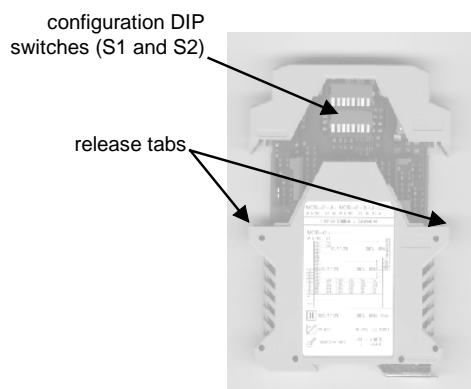

Figure 8 - Configuration Switch Location
All **MVA-141** configuration is accomplished via two(2) rows of internal DIP switches. The switches are accessed by slightly depressing the two(2) tabs on each side of the module while gently sliding the module top upwards until both rows of DIP switches are visible. See *Figure 8 - Configuration Switch Location*.